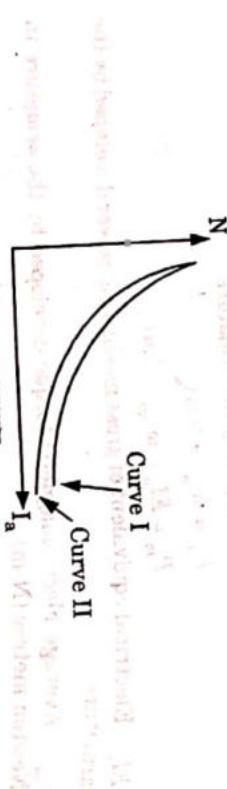

Fig. 4.8.2.
4. As  $I_a$  increases, the flux increases and hence the speed decreases as shown by curve I in Fig. 4.8.2.
5. As  $I_a$  increases,  $I_a(R_a + R_{se})$  drop increases, thus  $E_b$  decreases and speed also decreases as per eq. (4.8.1) and (4.8.3). This decrease in speed due to ohmic drop is shown by curve II in Fig. 4.8.2.